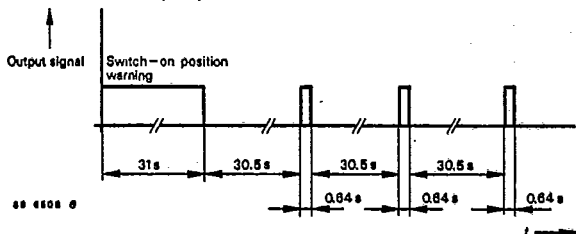

Fig. 6 Output signal: Switch positioning warning Plug-in fail state
- a) Switch-on position warning follows after mains plug insertion $-V_2 = 0\text{ V}$ - horizontal position. Output signal generates a constant signal of 31 s. It follows with 30.5 s intermission (pause) and 640 ms pulse (t_p - pulse time) duration sequence continuously as shown in Fig. 6. A signal change on motion switch (detector) input of $t \geq 40\text{ ms}$ duration generates a timer-reset which resets the output position.
- a) Switch-on position follows after mains insertion in the position of 1, 3 and 4. It creates a signal as in U 2605 B, see also Fig. 6.